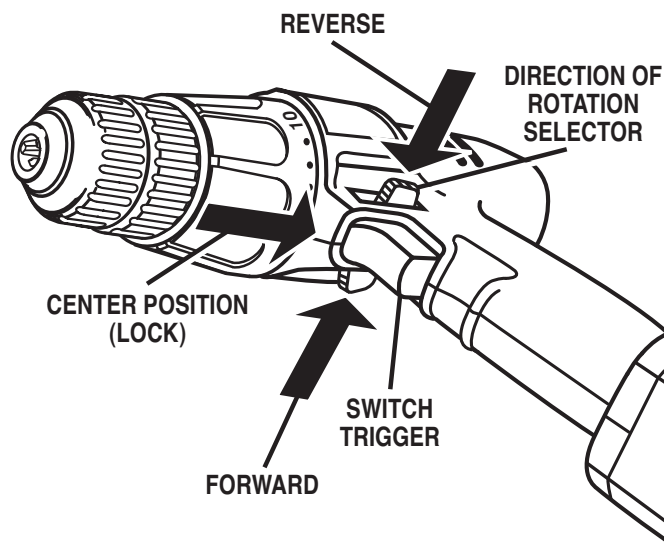

Fig. 3
See Figure 3.
- Place the direction of rotation selector in center position. See Figure 3.
- Place the direction of rotation selector in center position. See Figure 3. This will turn off the power to your drill.
- Lock the switch trigger by placing the direction of rotation selector in center position. See Figure 3.